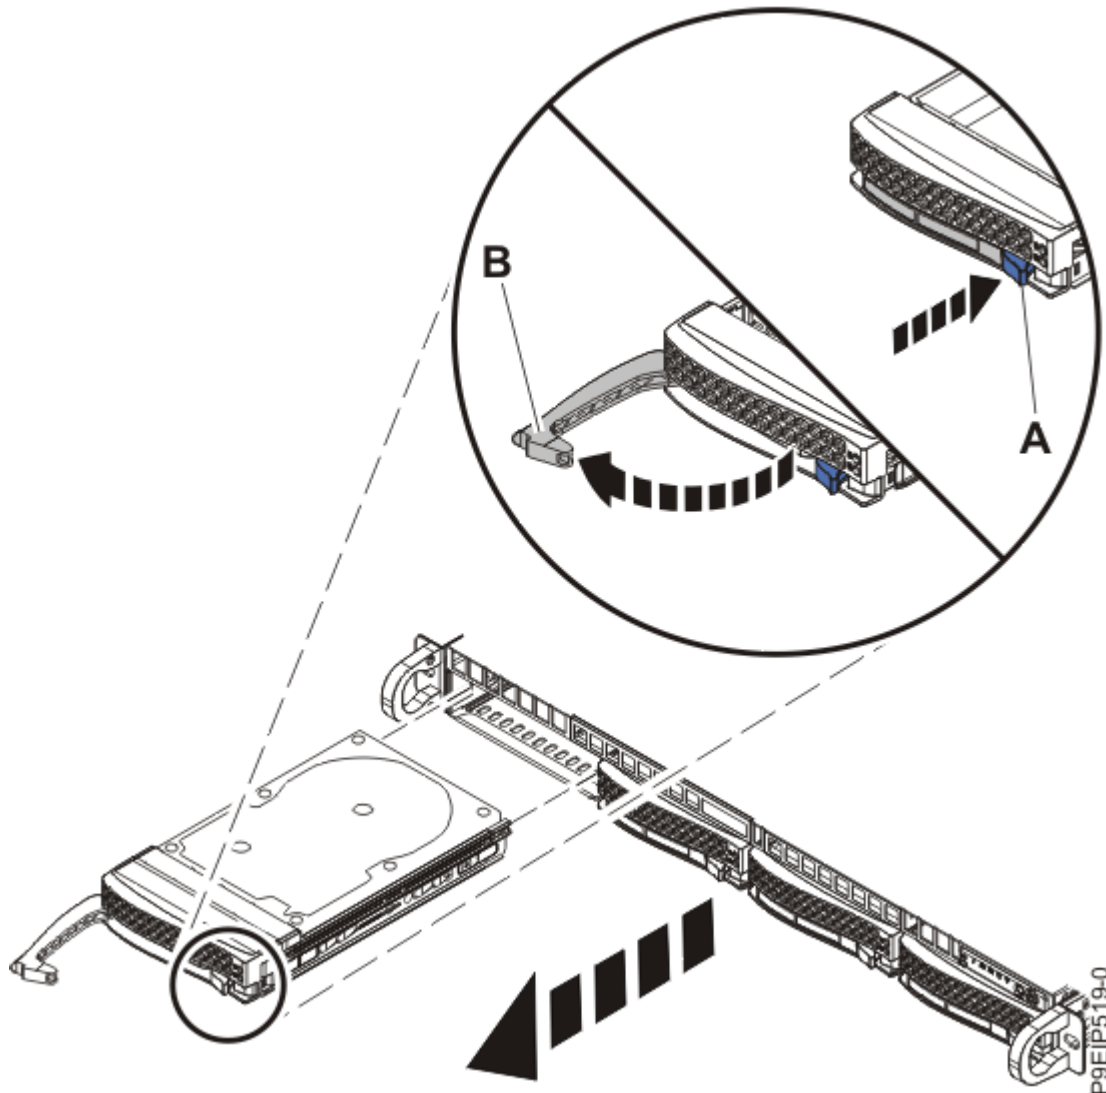

Figure 1. Removing a disk drive
3. Using the position information, unlock the drive bay handle **(B)** by pushing in the handle release latch **(A)** as shown in Figure 1 on page 4. Pull out the drive bay handle **(B)** towards you. If the disk drive bay handle is not all the way out, the disk drive cannot slide out of the system. Remove the disk drive from the system, supporting the bottom of the disk drive.